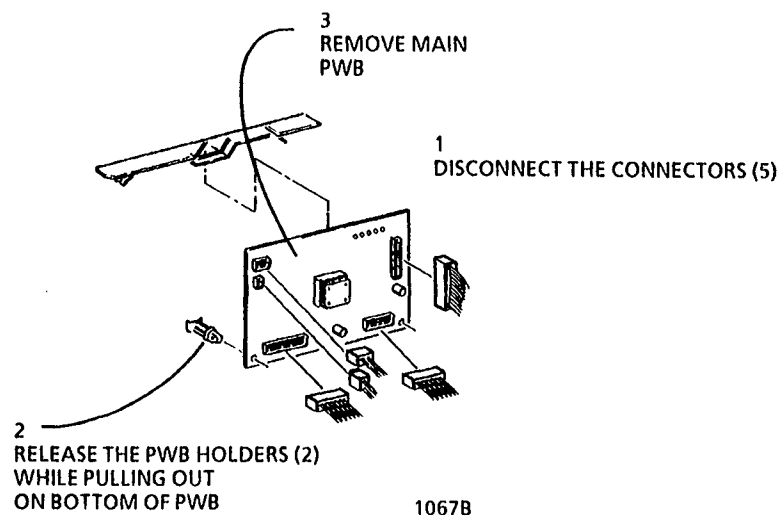

Figure 1. Removing the Main PWB
2. (Figure 1): Remove the Main PWB.